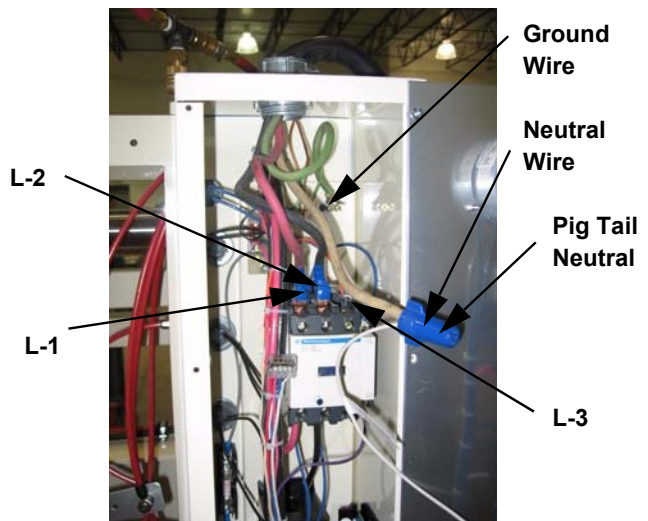

Figure 4: Electrical Connections
1. Connect 220 volt services to the positions labels L-1 and L-2 on the main magnetic starter. See Fig. 4 & 5.